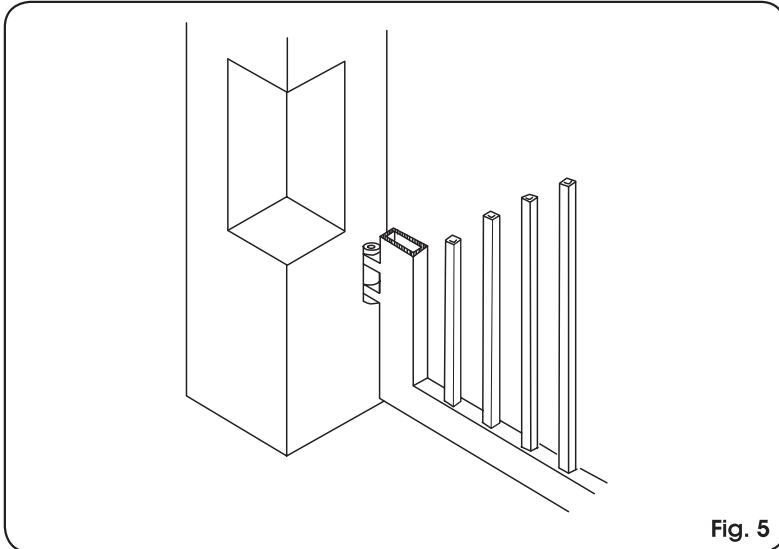

Fig. 5
If the pillar dimensions or the hinge position do not allow the installation of the operator, a niche on the pillar, as shown in Fig. 5, should be created in order to maintain the A dimension as determined. The niche should be dimensioned in such a way to enable easy installation, operator rotation and operation of the release device.
- tion indicated by the arrow on the release system, Fig. 5. Open and close the leaf manually.